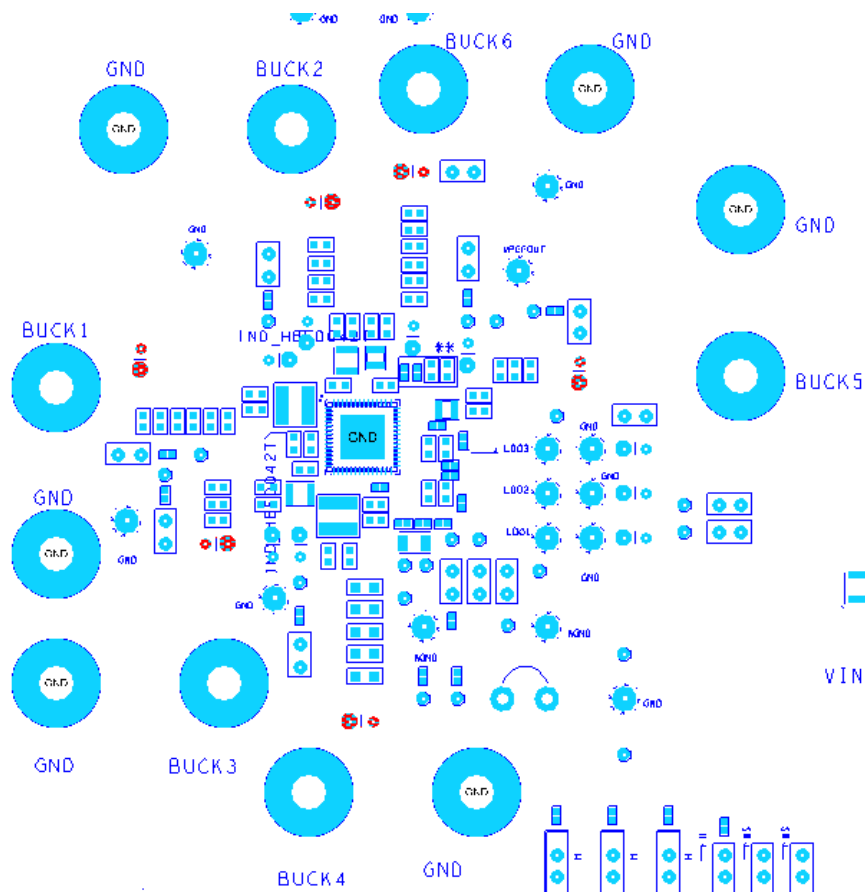

Figure 9. Locations for Measurement of Buck Regulator Output Voltages
4. **Figure 9** shows locations on the PCB where the buck regulator output voltages can be measured accurately. For each buck regulator, there is a pair of pads with holes to which wires, pins, or connectors can be soldered, or an oscilloscope probe can be connected. The larger of each pair of pads is the positive; the smaller pad is ground.